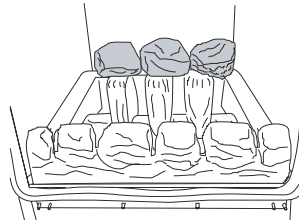

Figure 21 – Rear Coals
3. Place three coals across the top of the rear ceramic, as shown in **Figure 21**. Ensure that the flat faces of the coals are facing downwards, into the fire. These coals should touch each other, and the rear face of the firebox.